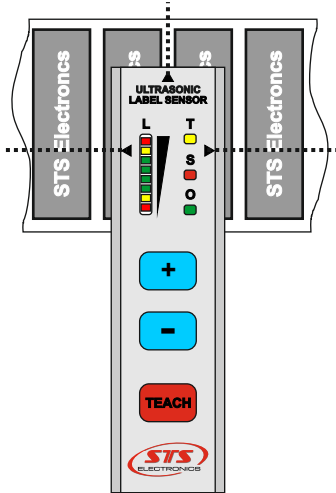

Fig. 8.1
1. Position the label stock on a gap. Figure 8.1.